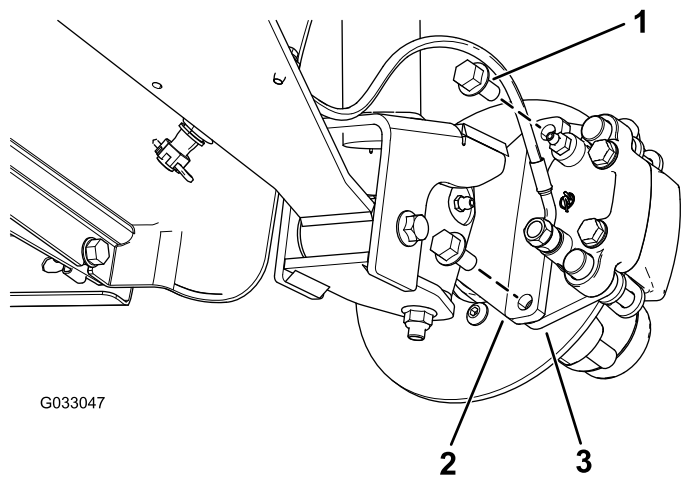
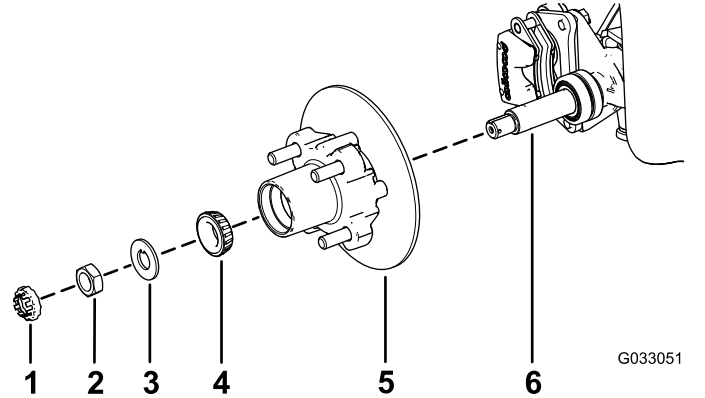

Figure 23
Figure 27
3. Remove the flange-head bolts (3/8 x 3/4 inch) that secure the bracket for the brake assembly to the spindle and separate the brake from the spindle (Figure 23).
1. Apply a light coat of the specified grease to the spindle (Figure 27).
2. Assemble the hub and rotor onto the spindle with the rotor inboard (Figure 27).
3. Assemble the outboard bearing onto the spindle and seat the bearing to the outboard race (Figure 27).
4. Assemble the tab washer onto the spindle (Figure 27).
5. Thread the spindle nut onto the spindle and tighten the nut to 15 N·m (11 ft-lb), while rotating the hub to seat the bearing (Figure 27).
2. Align the brake pads to either side of the rotor (Figure 23) and the holes in the caliper bracket with the holes in the brake mount of the spindle frame (Figure 27).
3. Secure the caliper bracket to the spindle frame (Figure 23) using the 2 flange-head bolts (3/8 x 3/4 inch).